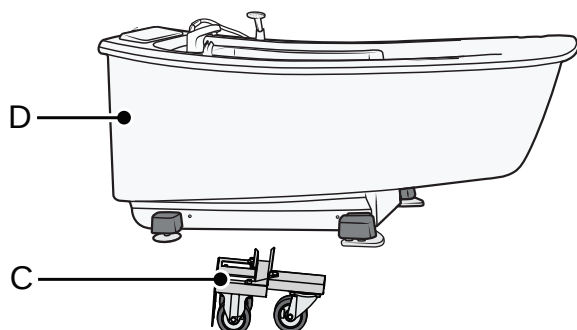

Figure 10
Make sure the wheel pair (C) on the trolley is positioned towards the heavy side of the bathtub (D). See Figure 10.